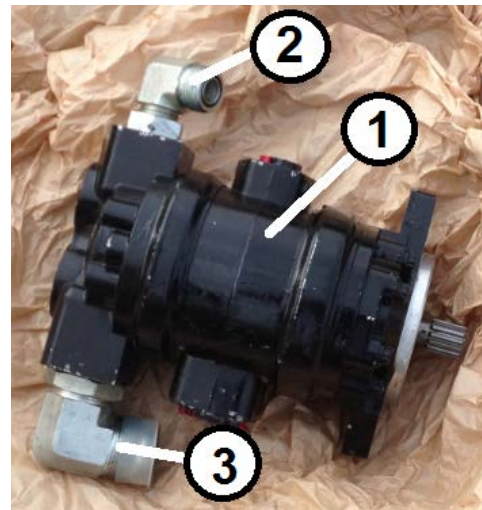

Figure 53. Hydraulic Pump Assembly
Install merger hydraulic pump with original o-ring and reuse two (2) M12x35 bolts. Orient the pump such that the suction ports are facing the right side of the machine. See Figure 53.